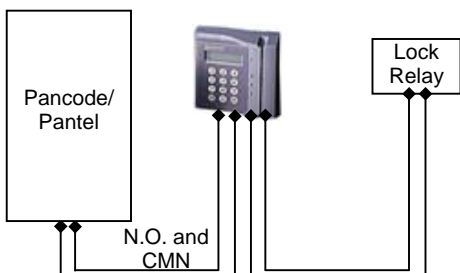

Figure 10. Access Control - Controlling Lock Relay
For this installation, the access-control device “**Bypass Switch**” (SW) wires are connected to the “**N.O.**” and “**CMN**” terminals of the Pantel/Pancode. The door-lock relay wires are connected to the access-control device (see Figure 10).